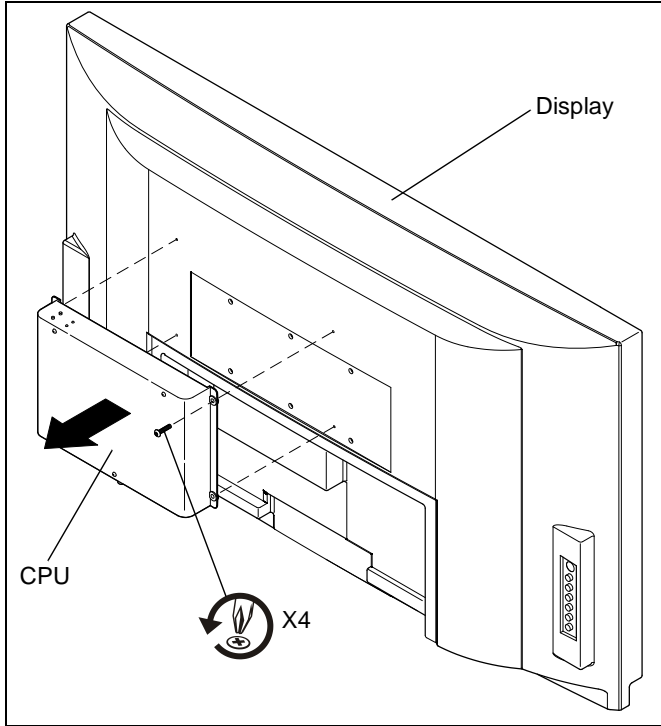

Figure 2
3. Remove 4 screws securing CPU to display. (See Figure 2)